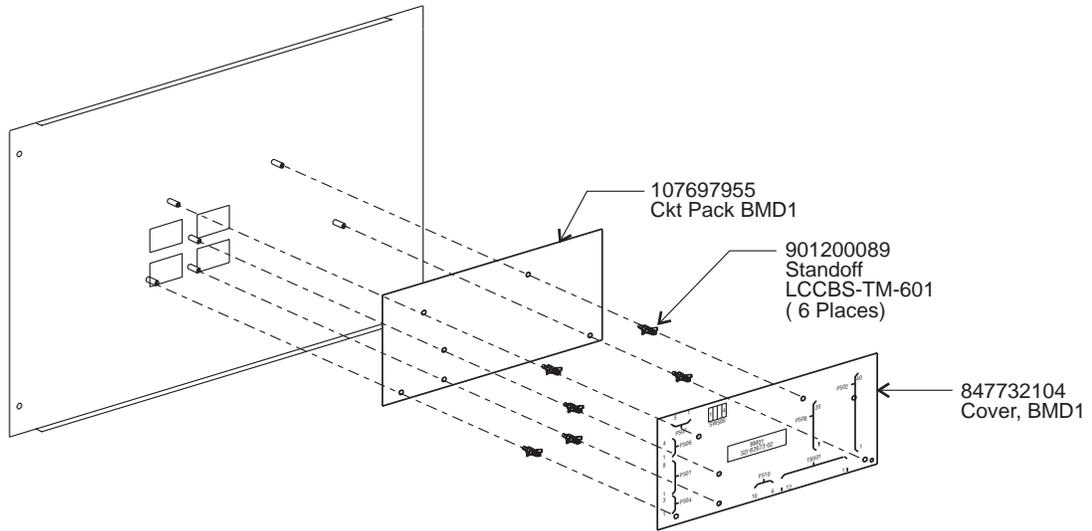

Figure 4-6: Door assembly
11. Mount the BMD1 LVD/Fuse board to the distribution door assembly as shown in Figure 4-6.